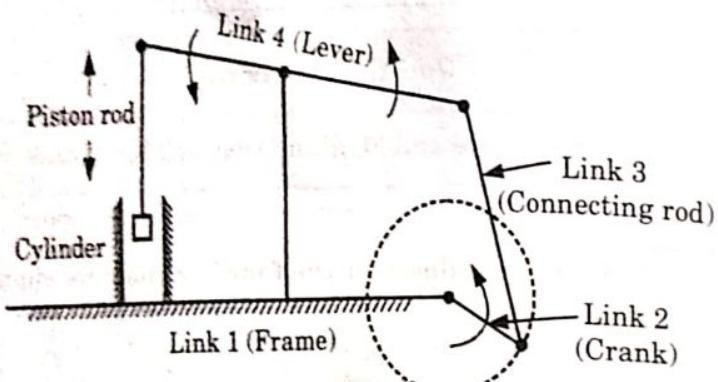

Fig. 1.9.1. Crank-lever mechanism.
2. In Fig. 1.9.1, link 1 is a fixed frame whose one end is connected with link 2 (crank) which rotates about a point A, link 3 transfers this motion to link 4 and link 4 converts it into a reciprocating motion of slider as shown in Fig. 1.9.1.